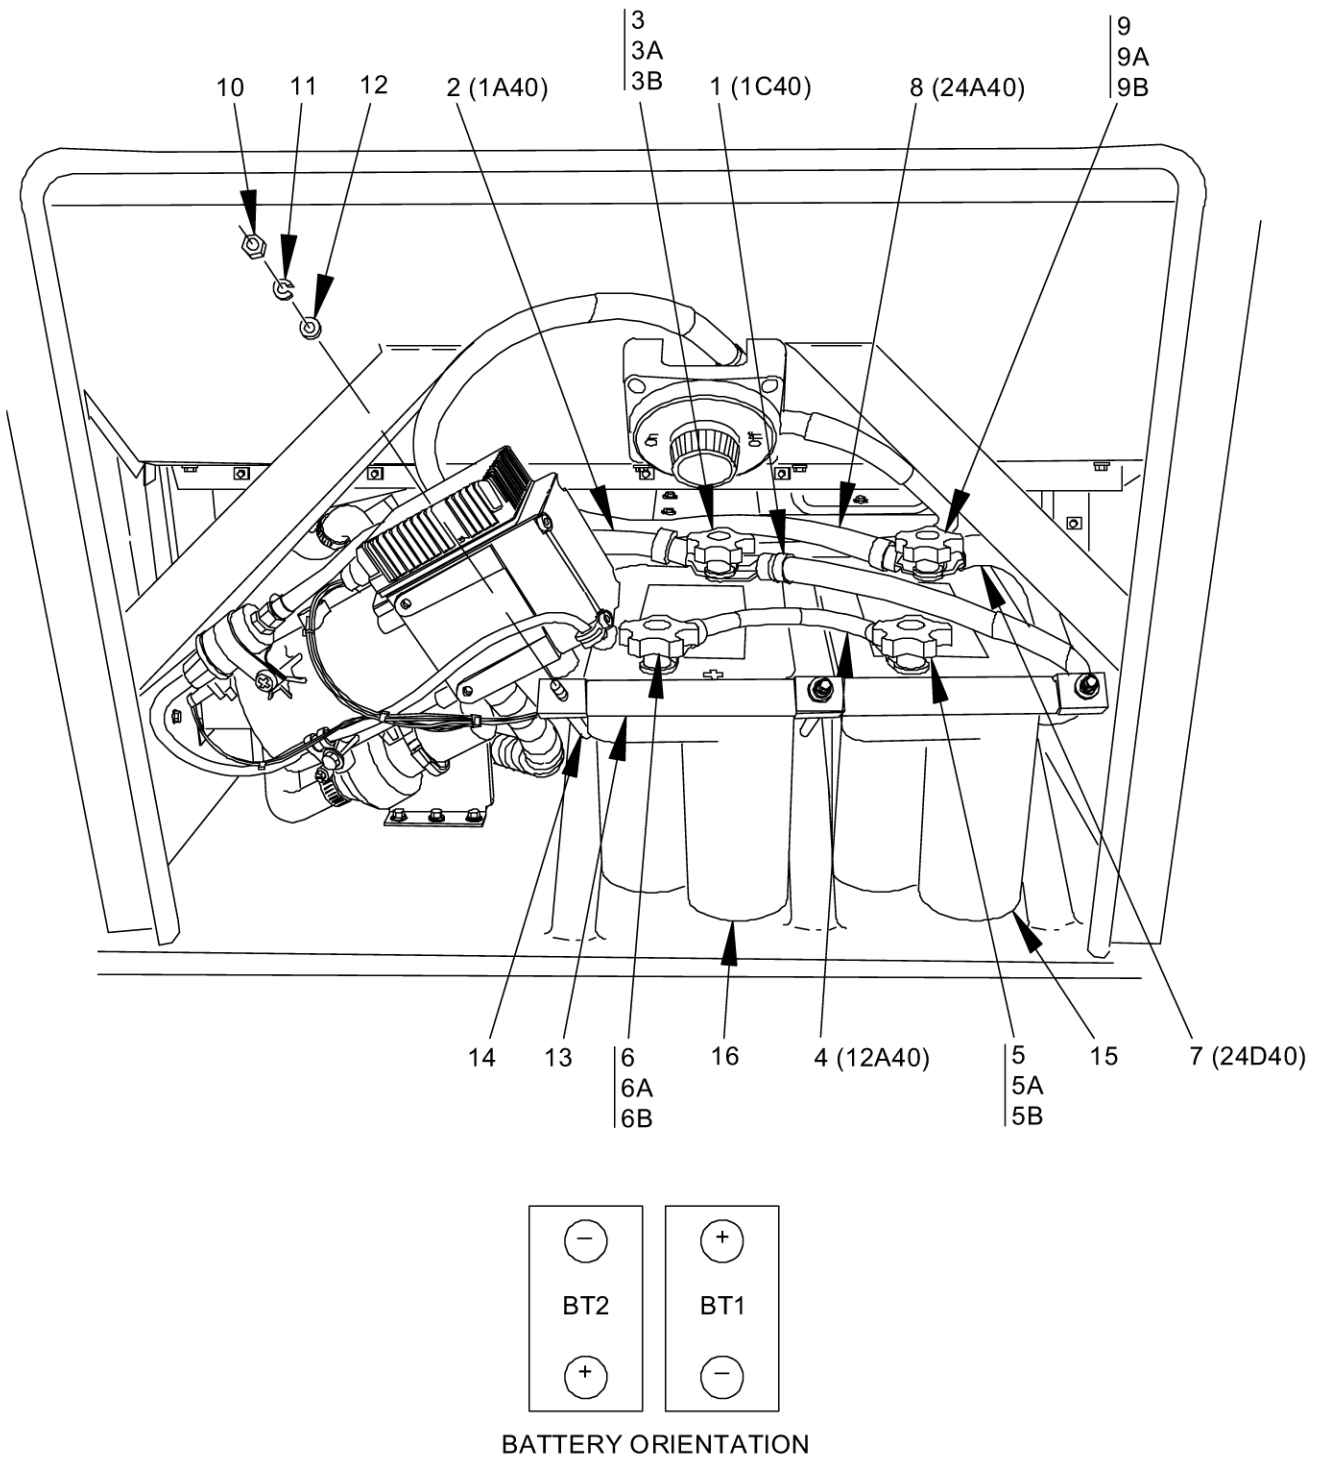

Figure 1. Batteries.
6. Tag cables and remove battery terminal knob (Figure 1, Item 9), lock washer (Figure 1, Item 9A), and flat washer (Figure 1, Item 9B) that secure battery cable 24D40 (Figure 1, Item 7) and battery cable 24A40 (Figure 1, Item 8) to battery BT1 (right battery) positive terminal. Remove battery cables 24A40 and 24D40.
7. Remove three nuts (Figure 1, Item 10), lock washers (Figure 1, Item 11), washers (Figure 1, Item 12), and pull battery hold down angle (Figure 1, Item 13) off three threaded rods (Figure 1, Item 14).
8. Remove right battery BT1 (Figure 1, Item 15) and left battery BT2 (Figure 1, Item 16).
1. Install left battery BT2 (Figure 1, Item 16) so that positive terminal (Figure 1, Item 6) is close to doorway.
2. Install right battery BT1 (Figure 1, Item 15) so that negative terminal (Figure 1, Item 5) is close to doorway.
3. Position battery hold down angle (Figure 1, Item 13) on three threaded rods (Figure 1, Item 14) and install three washers (Figure 1, Item 12), lock washers (Figure 1, Item 11), and nuts (Figure 1, Item 10).
4. Install battery cable 24A40 (Figure 1, Item 8) and battery cable 24D40 (Figure 1, Item 7) on battery BT1 (right battery) positive terminal and secure with flat washer (Figure 1, Item 9B), lock washer (Figure 1, Item 9A), and battery terminal knob (Figure 1, Item 9). Remove tags from battery cables.
5. Install battery cable 12A40 (Figure 1, Item 4) on battery BT1 (right battery) negative terminal and battery BT2 (left battery) positive terminal and secure with flat washer (Figure 1, Item 6B), lock washer (Figure 1, Item 6A), and battery terminal knob (Figure 1, Item 6), and flat washer (Figure 1, Item 5B), lock washer (Figure 1, Item 5A), and battery terminal knob (Figure 1, Item 5). Remove tag from battery cable.
6. Install battery cable 1A40 (Figure 1, Item 2) and battery cable 1C40 (Figure 1, Item 1) on battery BT2 (left battery) negative terminal and secure with flat washer (Figure 1, Item 3B), lock washer (Figure 1, Item 3A), and battery terminal knob (Figure 1, Item 3). Remove tags from battery cables.